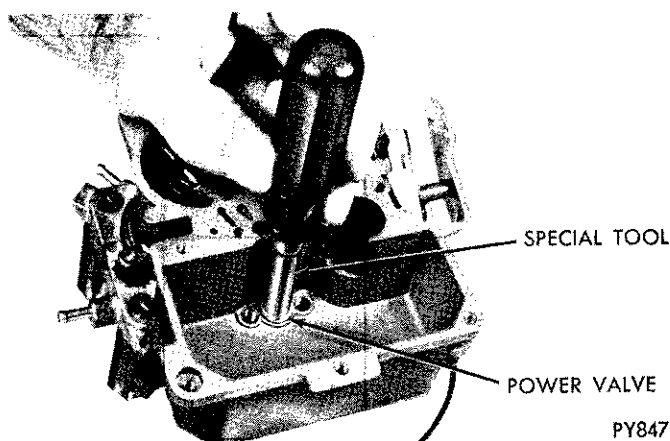

Fig. 13—Removing or Installing Power Valve
(17) Using Tool T109-73S, remove power valve assembly (Fig. 13).
(18) Invert main body and drop out accelerator pump discharge check needle from discharge pas-
(5) With discharge check needle installed, insert a piece of drill rod down on needle. Lightly tap drill rod with a hammer to form a new seat. Remove and discard old needle and install a new one. Retest as described previously. If service fix does not correct the condition, a new main body should be installed. Remove accelerator pump plunger, discharge check needle and fuel from main body.
(6) Install power valve, using Tool T109-73S, (Fig. 13). Tighten securely.